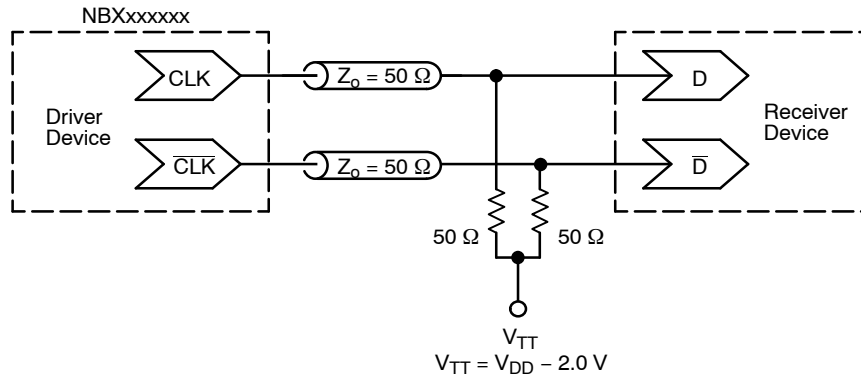

Figure 5. Typical Termination for Output Driver and Device Evaluation
2. Measurement taken with outputs terminated with 50 ohm to $V_{DD}-2 \text{ V}$. See Figure 5.
3. Measurement taken with outputs terminated with 50 ohm to $V_{DD}-2 \text{ V}$. See Figure 5.